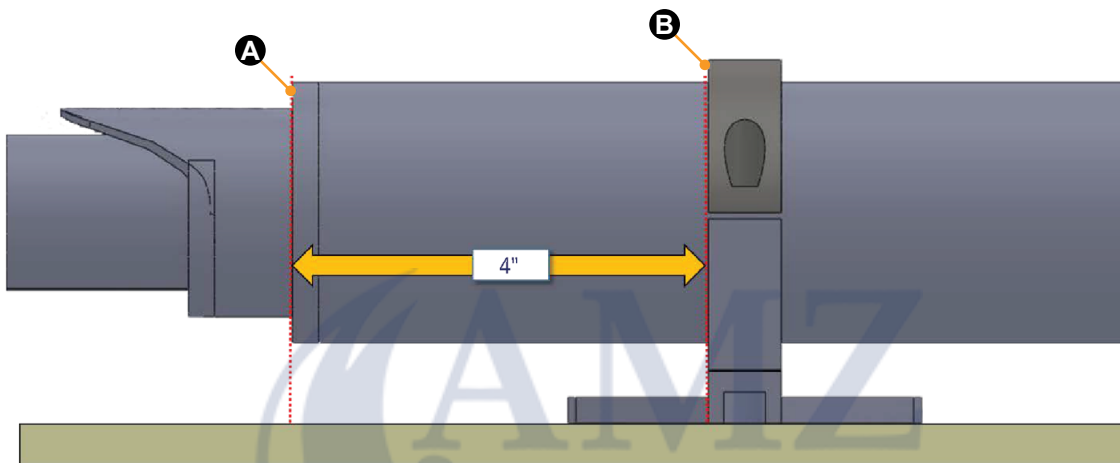

Fig.15
3. Measure from the telescoping end (Fig.15A) of the stationary actuator tube to the aft mounting clamp (Fig.15B). There should be no less than 4" between the end of the tube and the aft mounting clamp (Fig.15).